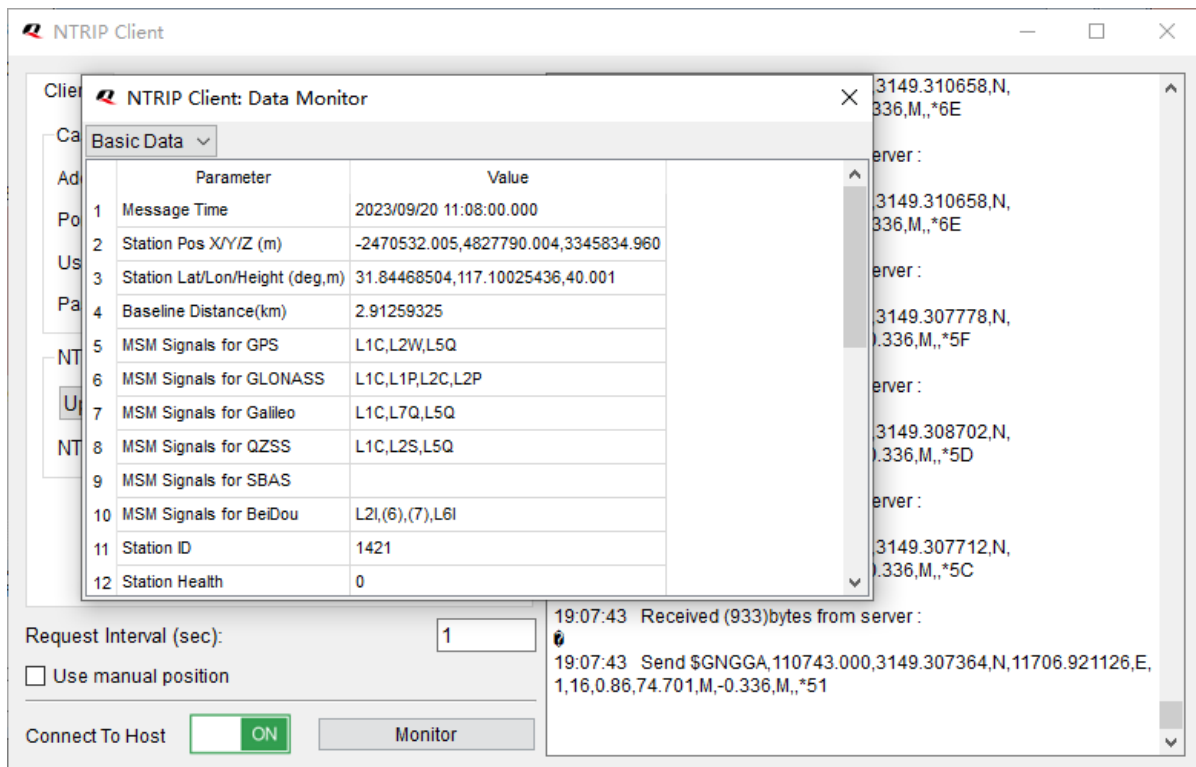

Figure 29: RTK Data Monitor
- Step 7:** Click “**Monitor**” button to open the “**NTRIP Client: Data Monitor**” window where you can view the differential correction data sent by the server, as shown in Figure 29: RTK Data Monitor.